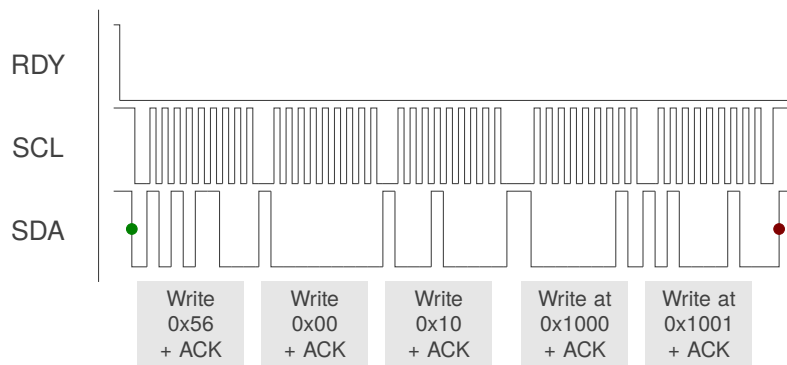

Figure 12.2: I²C Write Example — Write Two Bytes to System Control Registers 0x1000 and 0x1001
The write operation is displayed in Figure 12.2. Similar to the read transaction, when the RDY interrupt is triggered, the master initiates communication by sending a start condition followed by the device address and a write command. The IQS396 responds with an acknowledgement, after which the master device transmits two bytes defining the register address. The slave acknowledges the register address bytes. The master may then write a series of bytes to the register address and the addresses that follow, with each byte being acknowledged by the slave. The write operation is ended when the master produces a stop condition.
- > Write the new values back over I²C, as shown in Figure 12.2.